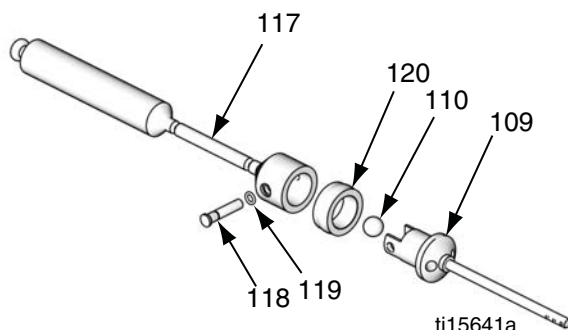

Figure 5 Disassemble piston valve.
6. See Fig 5. Push the displacement rod (117) out through the bottom of the cylinder (101).
7. Remove the retaining pin (118), o-ring (119), and ball (110). Pull the connecting rod (109) from the displacement rod (117). Remove the seal (120).